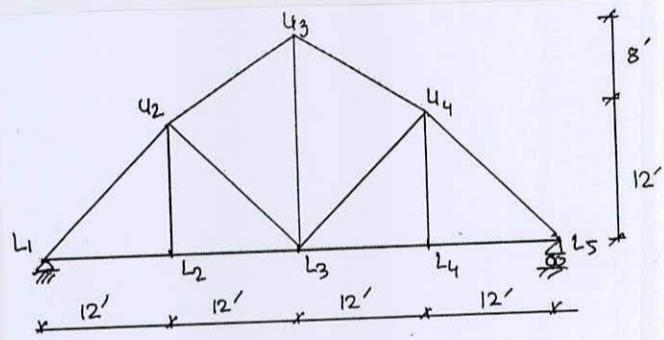

Fig. 11
8. For the truss shown in Fig. 11, draw influence lines for force in member U_3U_4 and L_3U_4 .